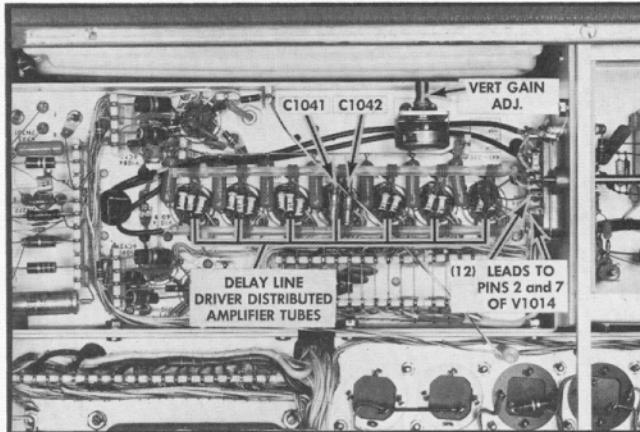
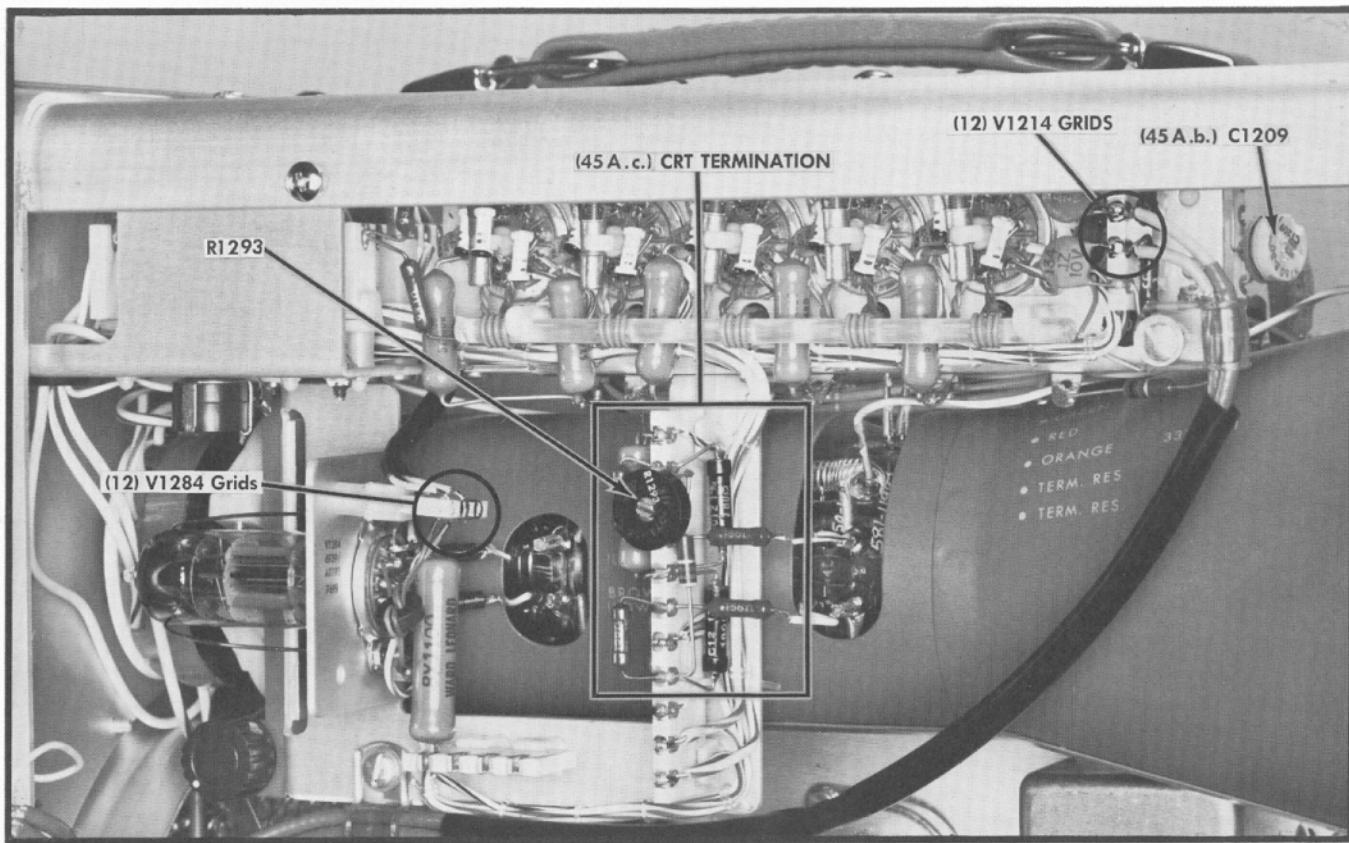

Fig. 6-8. Bottom View of driver distributed amplifier.
Fig. 6-10. Left rear side view of the Type 585 Oscilloscope, after Serial No. 2585, showing changes in vertical system.
Rotate the VERT. GAIN ADJ. control (see Fig. 6-8) fully clockwise. Short the vertical deflection plates together at the neck pins on the crt. (Be careful not to short the plates to the crt shield.) When the vertical-deflection plates are shorted, the trace will appear at the electrical center of the crt. Remove the short and vertically position the trace to coincide with the electrical center.
Lay the oscilloscope on its right side. The bias on each tube in the Delay Line Driver stage (see Fig. 6-8), measured from each grid to cathode, should be about 0.35 volt. (Both grid and cathode of these tubes are at about +50 volts. Use a voltmeter that can be elevated safely.) Connect the dc voltmeter between pin 8 (cathode pins 3 and 8 are connected together) and pin 2 (grid) to measure the bias on the first half of the tube V1014. Then move the voltmeter lead from pin 2 to pin 7 to measure the bias on the second half of the tube. Move the voltmeter connections successively to each Delay Line Driver tube.
When the delay line is either in the latched position or is opened outward, no oscillations should appear on the crt screen. If oscillations occur when displaying 2 cm of calibrator signal, adjust the neutralizing capacitors, C1041 and C1042 (see Fig. 6-8), for no oscillations. Use a plastic, low capacity tool.
Using a  $27\Omega$  shorting resistor such as is pictured in Figure 5-14, carefully short pin 1 to pin 3 of V1284 at the location shown in Figure 6-10. Observe electrical center shift. Next, short pin 2 to pin 7 of V1214 (Fig. 6-10). The trace should not shift from the electrical center more than 0.5 cm in either case. Carefully short pin 2 to pin 7 of V1014 at the location shown in Figure 6-8. The trace should not shift more than 0.5 cm. (If using a TU-3, the last shorting operation is done by pushing the ZERO REFERENCE button.)
b. In instruments before Serial No. 2585, place the oscilloscope in the upright position. Set the AMPLITUDE CALIBRATOR control at .2 VOLTS and connect the P80 Probe to the CAL. OUT connector. (Use Adapter 013-017). Leave the TIME/CM control at .5 MILLISEC and adjust the VERT. GAIN ADJ. control (see Fig. 6-8) for a deflection of exactly two centimeters. Turn the AMPLITUDE CALIBRATOR off.